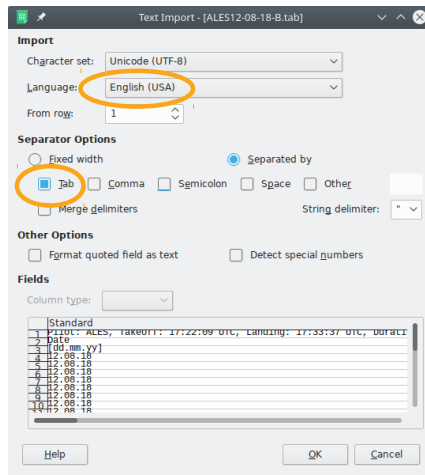

Figure 2.33: An example of Calc Text Import window.
5. Calc detects that a text file is being imported and it opens a window as shown in Figure 2.33. Please make sure that the *Tab* option is selected as the separator and *English (USA)* as the language. This makes sure that decimal values are properly imported.